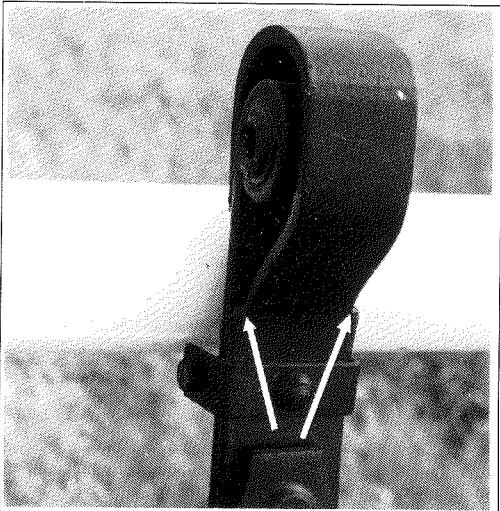

Fig 4. The ends of the 2nd leaf are reduced in width with a step on the 'later genuine springs'.
c) The ends of the second leaf are reduced in width on the later spring. Fig 4. The reason for this is also unknown.